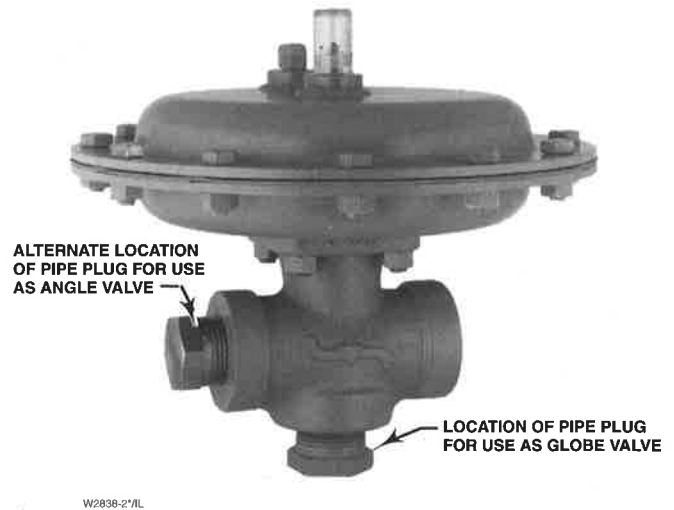
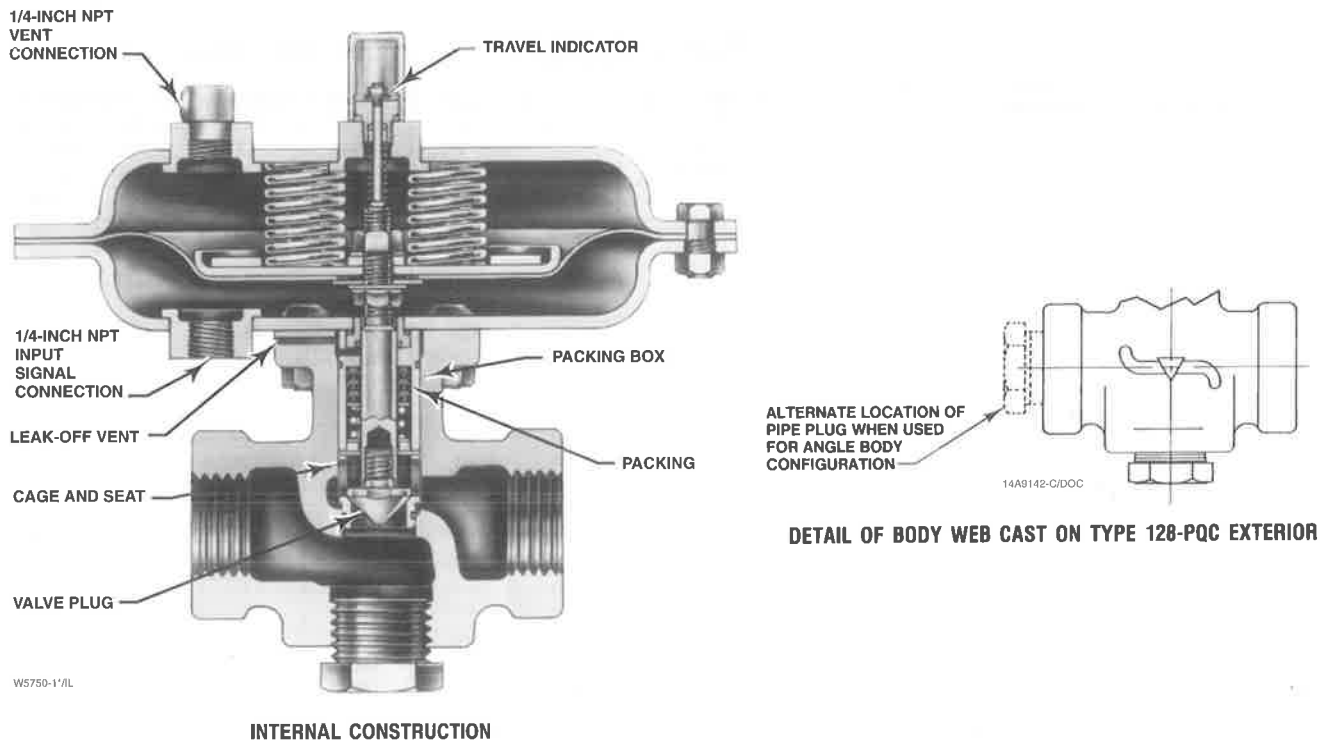

Figure 1. Type 128-PQC Control Valve
Figure 3. Type 128-PQC Control Valve with Spring-Close Action
The Type 128-PQC control valve provides on-off dump valve service for such oil production applications as separators, scrubbers, and treaters, even under sour gas conditions. It also may be used in general on-off high-pressure control of a wide variety of liquids and gases, including those which are sticky or gritty and erosive. The Type 128-PQC valve is a 1-inch combination control valve with a pipe plug in the bottom connection for straight-through globe valve flow as shown in figure 1. However, the pipe plug may be field-changed to the left-hand end connection as shown in figure 3 for angle flow.
3. Make sure that the valve is oriented so that flow is in the desired direction. If angle flow is desired, switch the pipe plug to the left-hand end connection as shown in figure 3.
5. Refer to figure 3. Connect the input signal line to the 1/4-inch NPT connection in the lower diaphragm casing of a spring-close control valve or in the upper diaphragm casing of a spring-open control valve.
The Type 128-PQC control valve has push-down-to-close valve plug action, as shown in figure 3. With a metal seat, the valve uses a caged construction and the valve plug shuts off against the integral seat ring in the cage. In the cageless soft-seat construction, the valve plug shuts off against the seat cut into the web of the valve body.